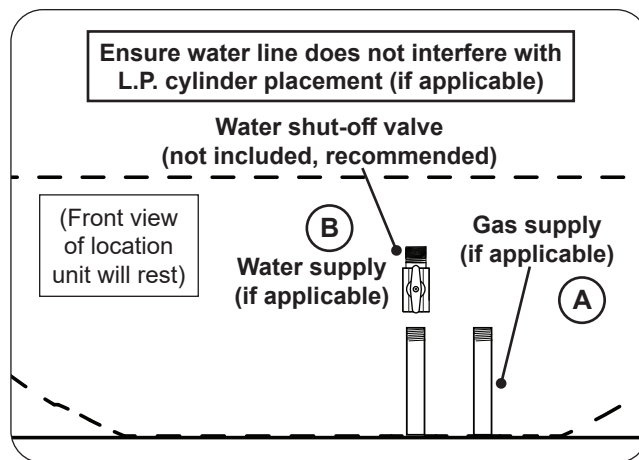

Fig. 27-1 Route gas and water supply (if applicable)
1. Ensure the gas supply is properly routed into the area that the unit will rest over (see Fig. 27-1, A).
1. Plumb the water supply into the area that the unit will rest over (see Fig. 27-1, B).
Note: It is recommended that a water shut-off valve (not included) be attached to the water supply line. It can be installed remotely or at the end of the water supply line. See Fig. 27-1, B for an example.